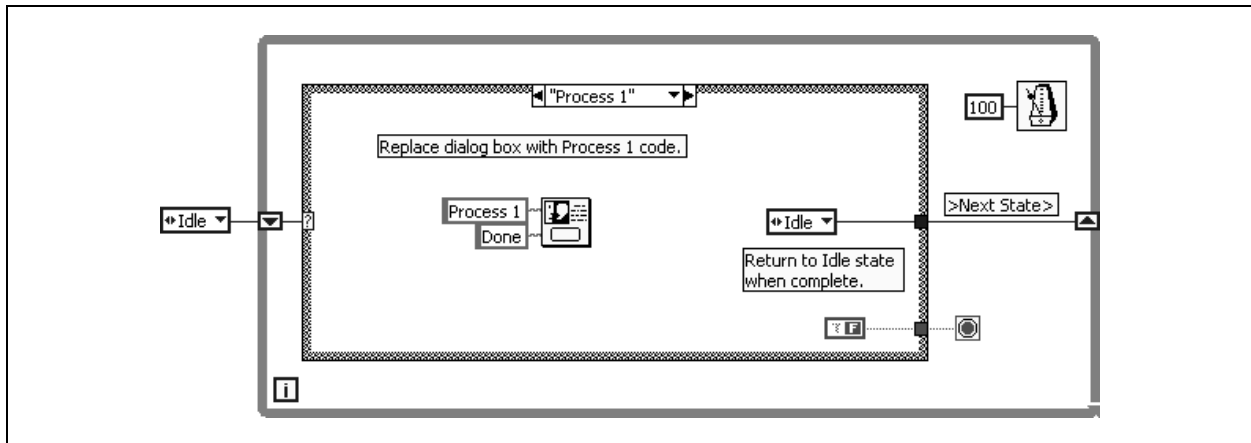

Figure 10-19. Process 1 State
5. Complete the Process 1 state shown in Figure 10-19. Use the following tips to assist you: